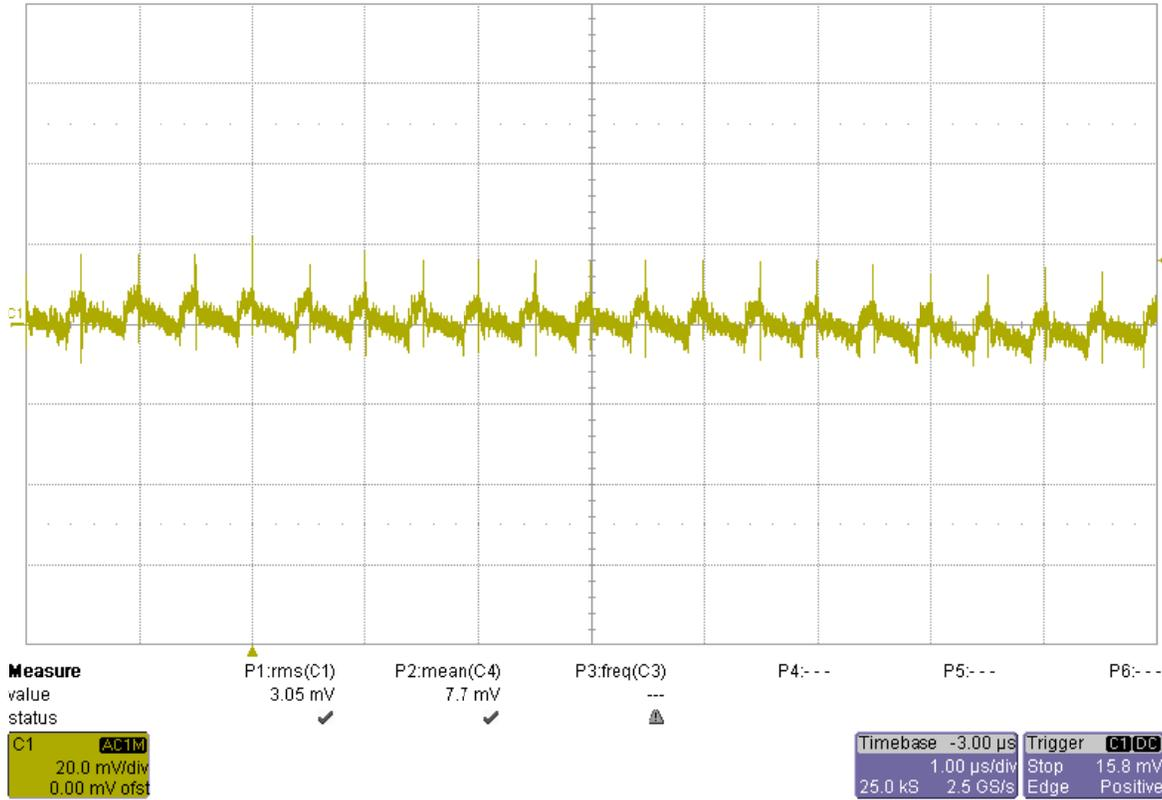
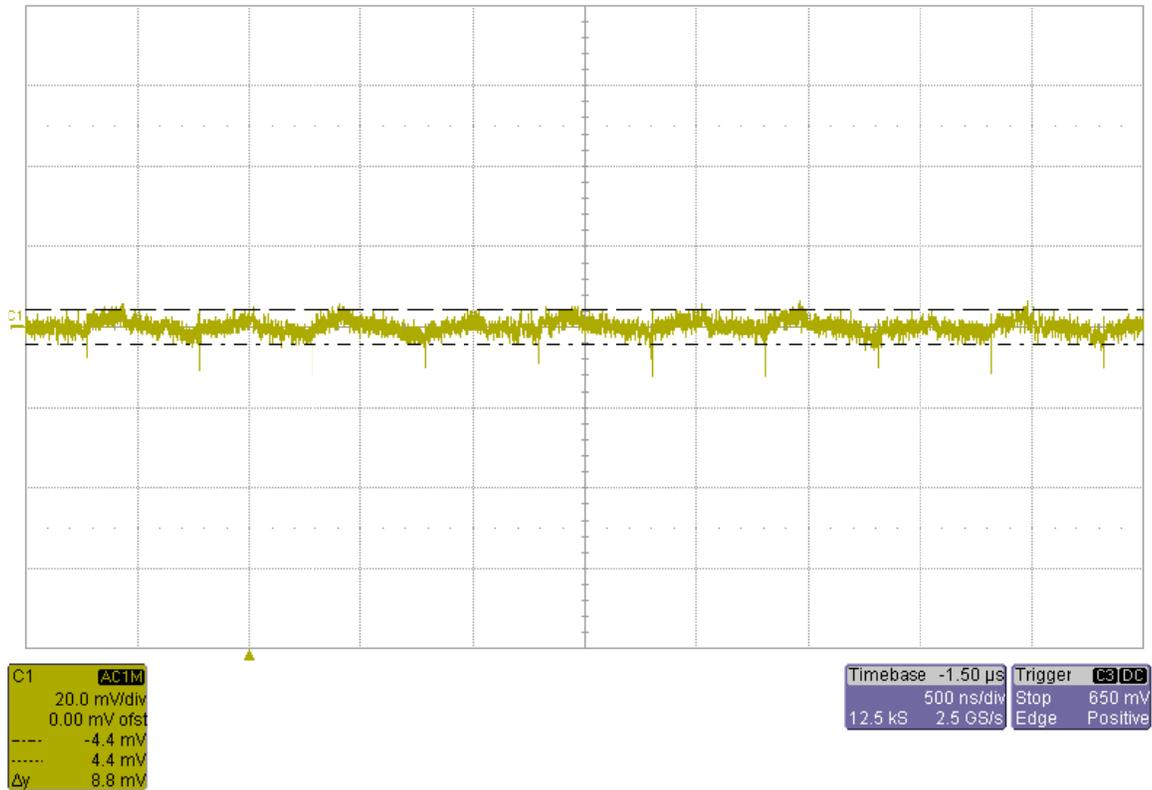

Figure 9: Output Voltage Ripple of 3V3_BUCK0 at 2.2 A
Figure 12: Output Voltage Ripple of 1V03_BUCK at 3 A
Figure 9 through Figure 12 shows the output voltage ripple measurements of each power rail:
- Figure 9: Output Voltage Ripple of 3V3_BUCK0 at 2.2 A
- Figure 12: Output Voltage Ripple of 1V03_BUCK at 3 A